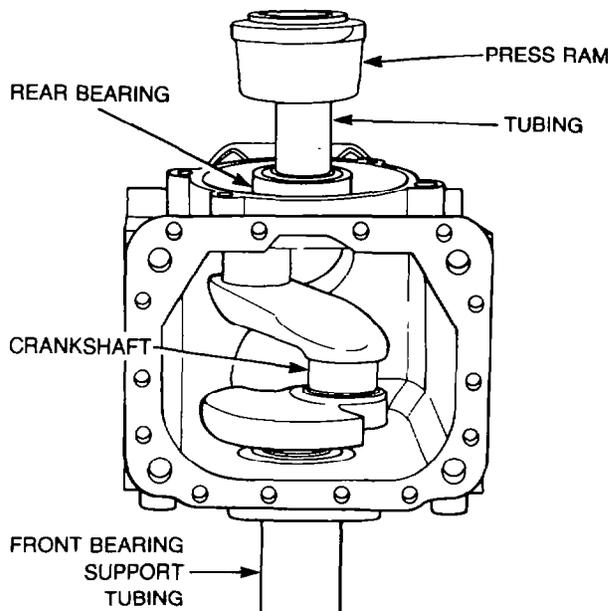

Figure 340 — Crankshaft — Installation
- c. Allow the crankcase to cool, then position the crankcase on a suitable press ensuring that the front bearing inner race is supported on a length of tubing (see Fig. 340). Install the crankshaft through the rear of the crankcase, then using a piece of tubing on the end of the crankshaft, press the shaft into the front bearing.